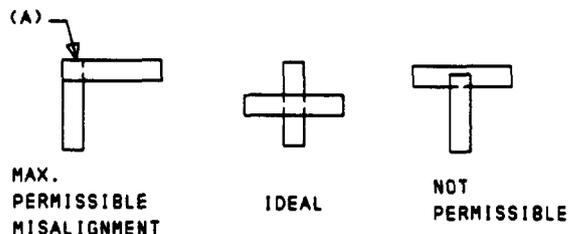

Fig. 2—Alignment of Contacts—Plan View of Contact Surfaces
- 2.03** *Contact Alignment*—Fig. 2 (A): The contacts shall line up so that the width of the contact surface of each contact bar falls wholly within the length of its mating bar. Gauge by eye. Refer to 3.04 for adjusting procedures.